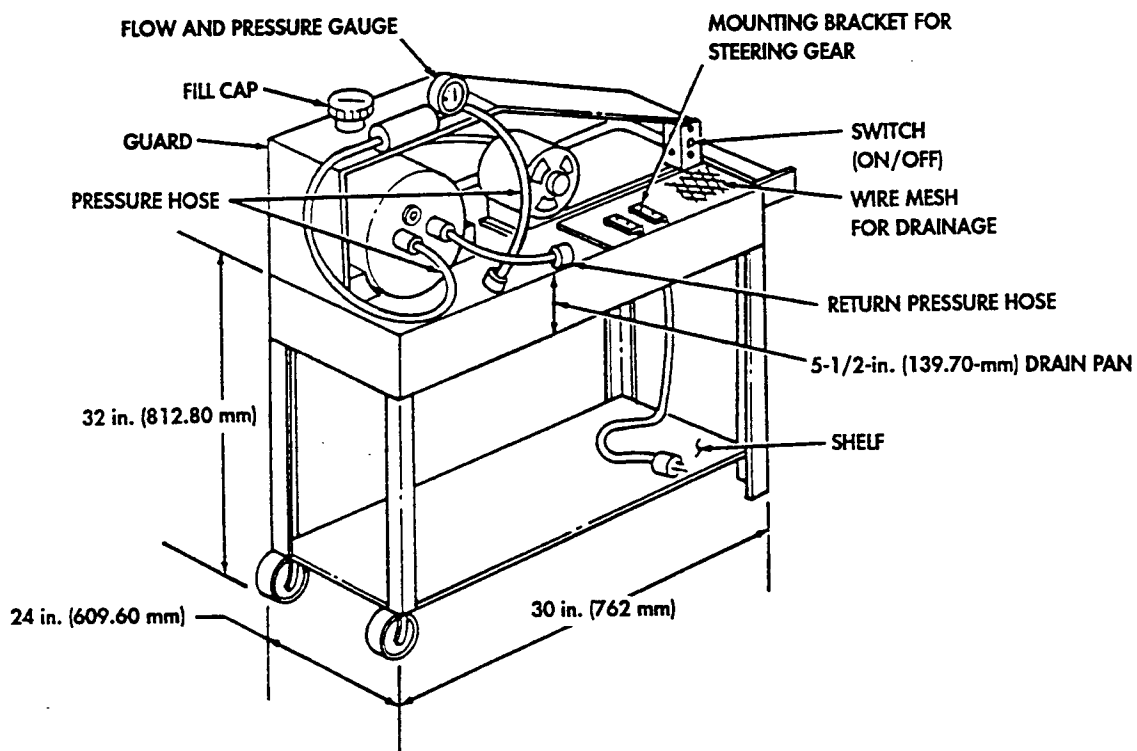

Figure D-77. Power Steering Pump and Steering Gear Test Stand.
1. Construct test stand using available materials and Figure D-77 as a guide.